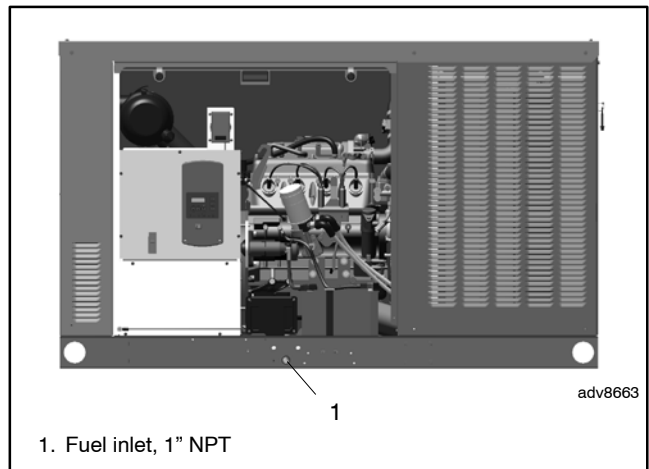

Figure 1-19 Fuel Supply Connection Location (30RCL generator set shown)
- b. Use a section of flexible fuel line to connect the fuel supply to the 1 in. NPT fuel inlet connection on the generator set. See Figure 1-19 or the dimension drawing in Section 4 for the fuel inlet connection location.